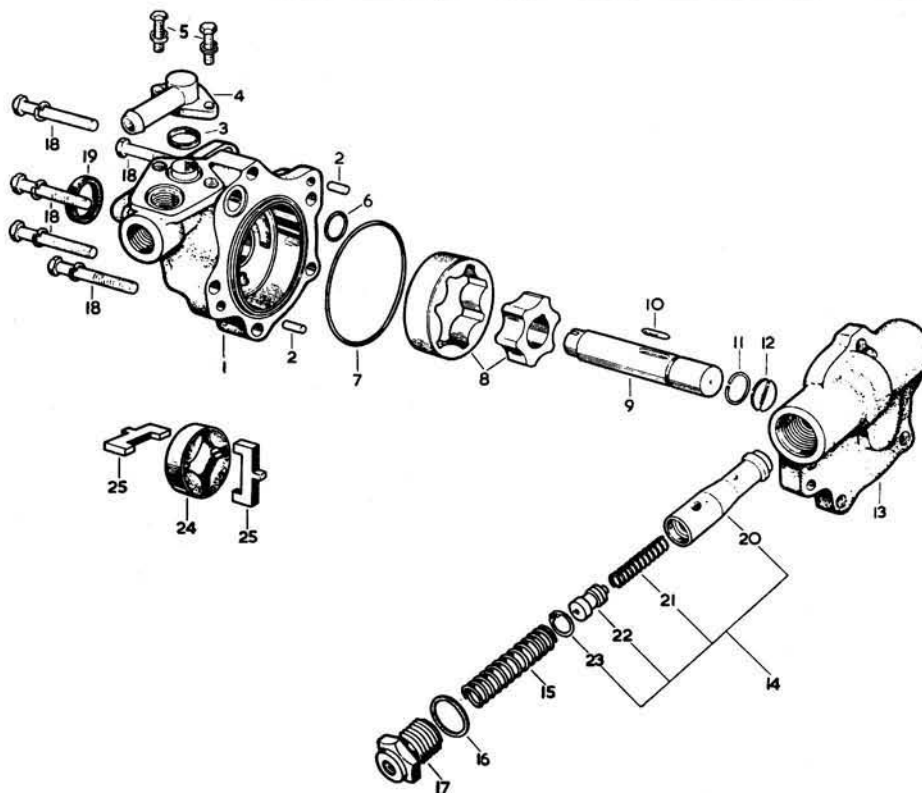

FIG.11.53. EXPLODED VIEW OF THE POWER STEERING PUMP (EARLY TYPE)
There are two types of oil pump which supply hydraulic pressure in the power assisted steering system. Early cars were fitted with a pump of the eccentric rotor type but this was superseded by a Hobourn-Eaton unit of the roller type on later cars. Both pumps incorporate a combined flow and relief valve and both are attached to the rear of the dynamo and are driven by a rubber coupling from the dynamo shaft. An exploded view of the early and later model pumps is given in Figs.11.53 and 11.54 respectively.
- 2 Refer to Fig.11.53.
- 3 Remove the two setscrews (5) holding the inlet adaptor (4) and take off the sealing ring (3).
- 4 Remove the five screws holding the cover assembly (13) to the body (1) and separate the cover from the body.
- 6 Remove the thrust button (12) from the bearing hole in the cover.
- 8 Remove the circlip (11) from the drive shaft.
- 9 Use a punch to drive out the bearing oil seal (19).
- 10 Remove the valve cap adaptor (17) and the seal (16) from the